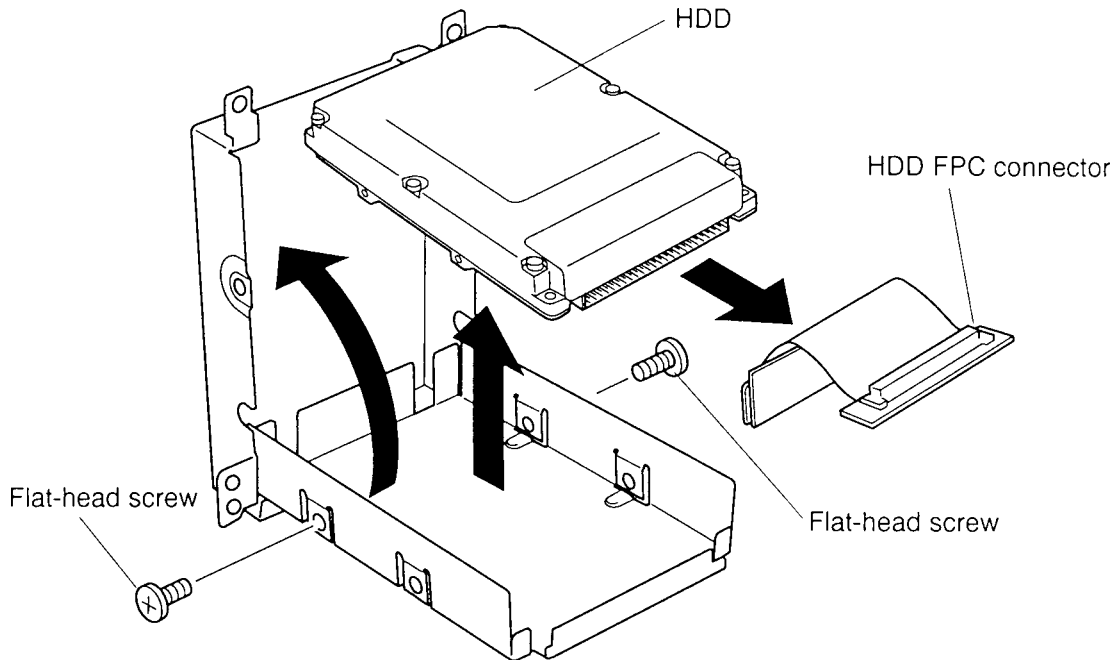

Figure 4-10 Removing the HDD
- Carefully disconnect the FPC from the HDD pack. Use a thin object to pry each side of the FPC connector a little at a time to avoid bending the pins, then grasp the connector and pull it off (figure 4-10).